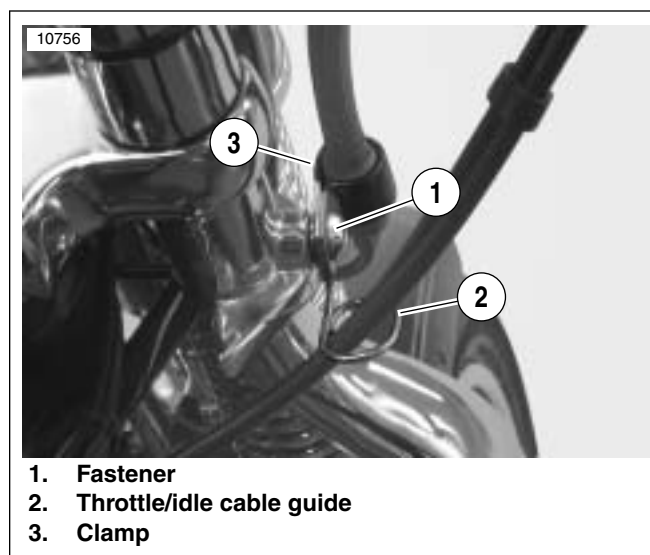

Figure 2. Cable Guide Removal
2. See Figure 2. Pull throttle/idle cables through throttle/idle cable guide (2).
3. Remove fastener (1), clamp (3) and **old** throttle/idle cable guide from front fork.